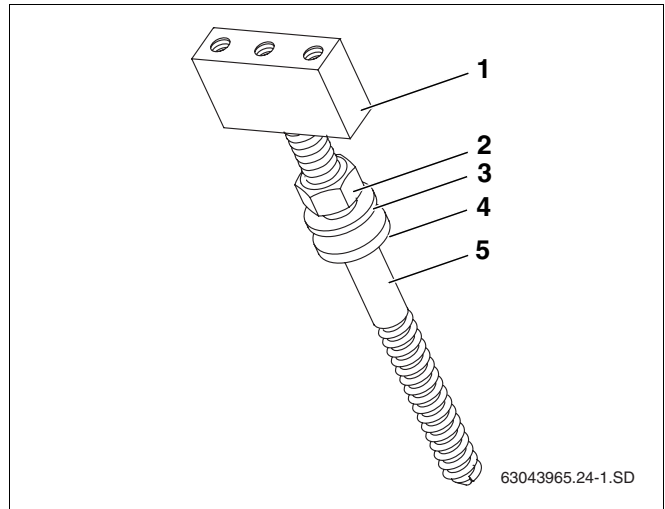

Fig. 23 Fitting the carriage bolts – sequence
- ▶ When fitting the carriage bolts, note the sequence of the individual parts (Fig. 23).
- ▶ Turn holding bracket (Fig. 23, **Item 1**) until it touches the carriage bolt (Fig. 23, **Item 5**).